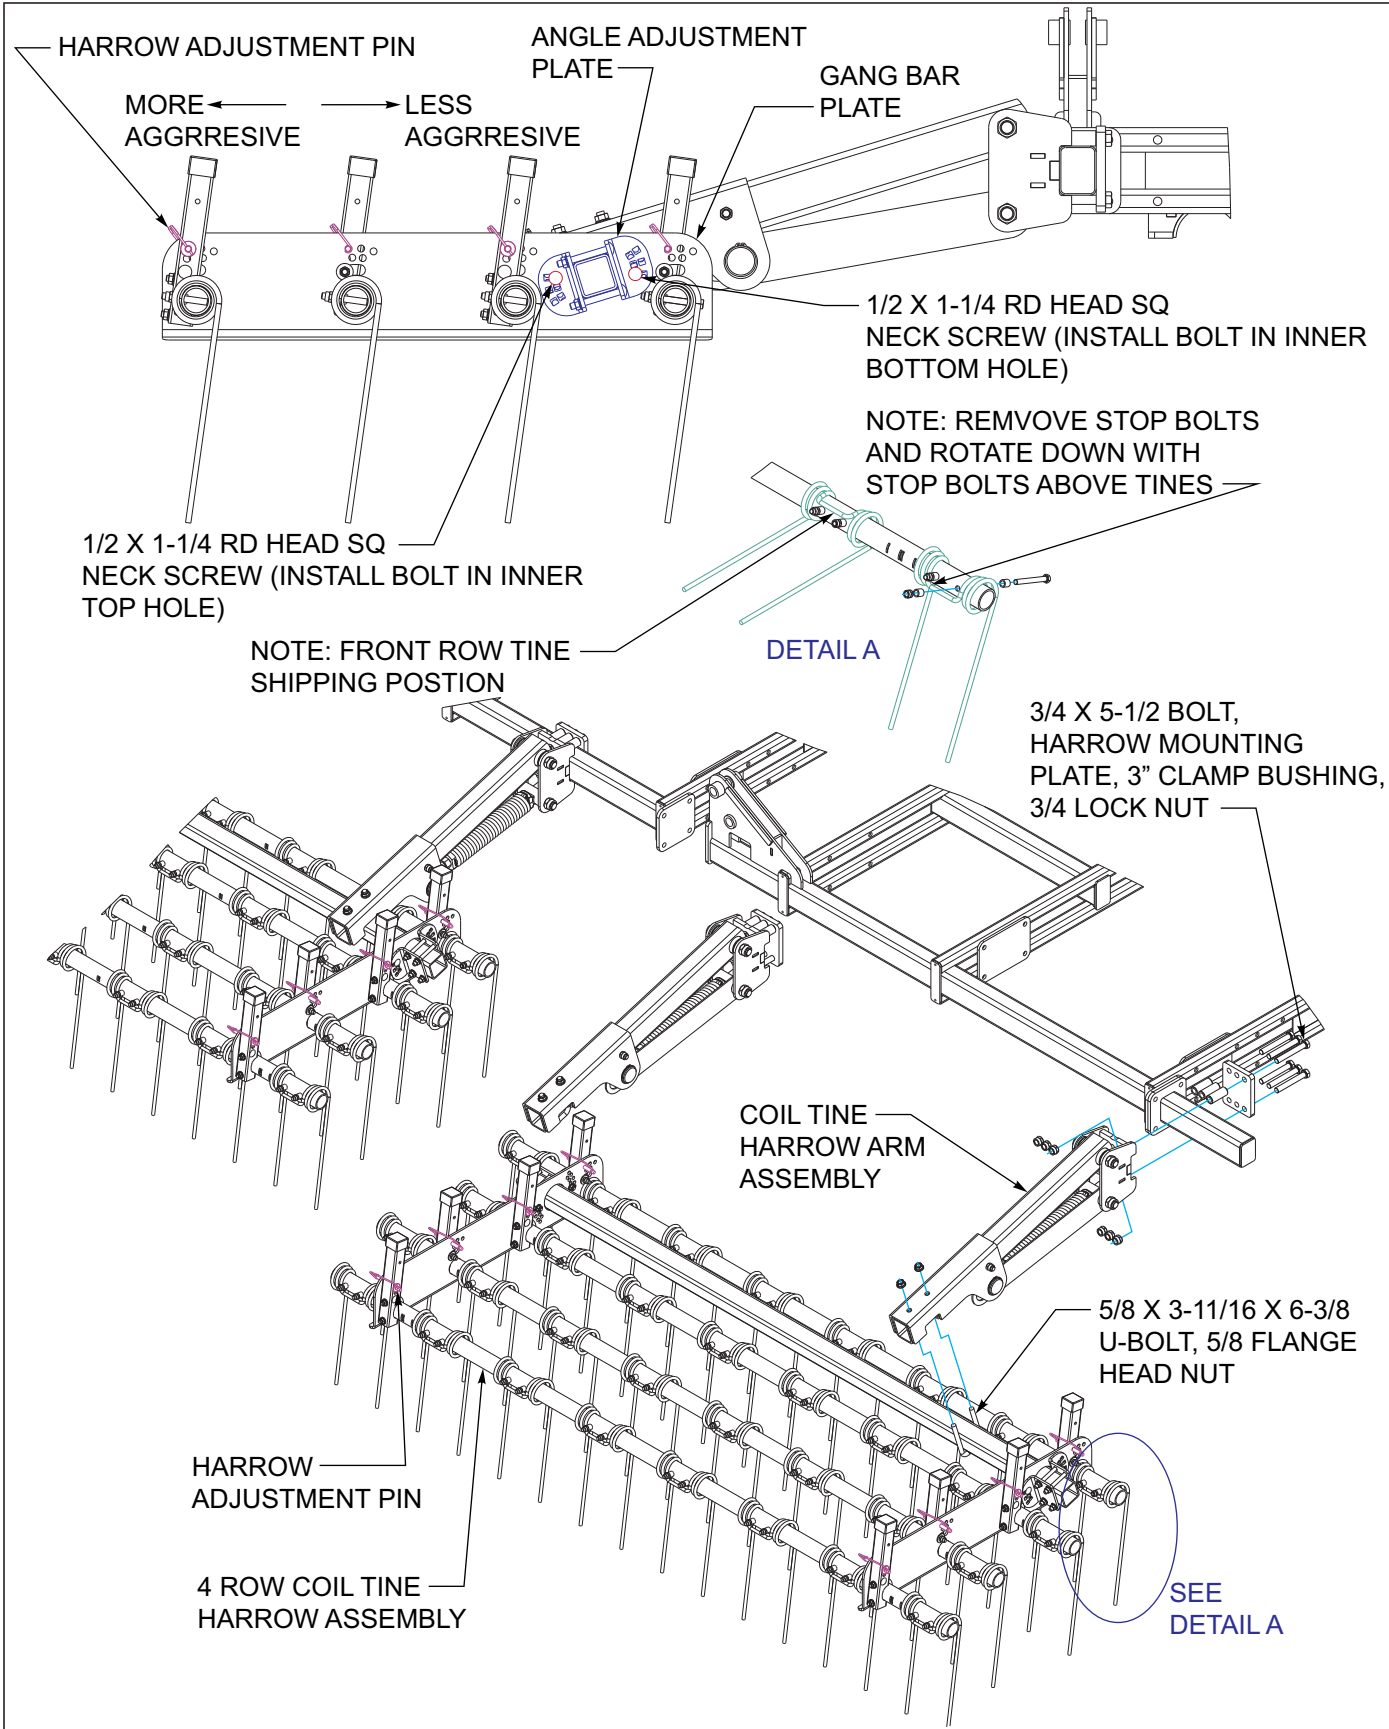

Figure 3-28: 4 Row Coil Tine Harrow Installation
1. Attach coil tine harrow arms to the rear of the field cultivator See Figure 3-28, according to placement dimensions. Clamp bushings are installed on the top mounting bolts.
3. Front row tines are assembled with the tines above the stop bolts to prevent damage when shipping See Figure 3-28 Detail A. Remove front tine bolts and reinstall, with stop bolts above tines.